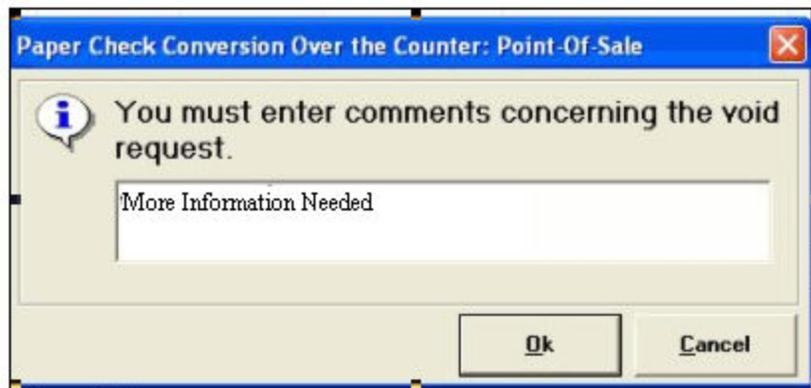

Figure 6.51
- If **‘Yes’** is selected, an authorized user’s login and password may be required to approve the void. The authorized user is prompted to enter comments regarding the void request. Key in the void comments and click the **‘Ok’** button. (Figure 6.51) The comment that is typed into the window also appears in the audit log.